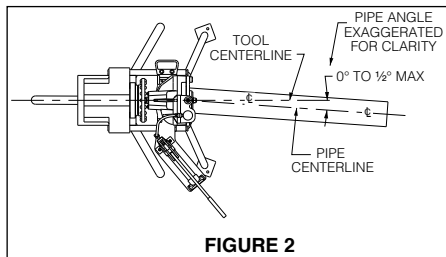

FIGURE 2
2. Position the pipe stand approximately ½° to the left (tracking angle). See Figure 2.